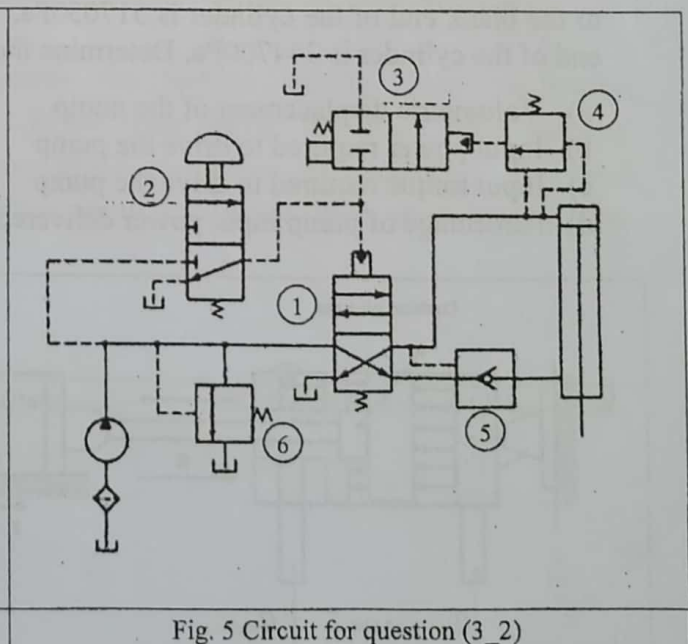

Fig. 5 Circuit for question (3_2)
2. Figure 5 shows a fail-safe circuit with overload protection. The purpose of the circuit is to prevent the cylinder from accidentally falling on an operator as well as prevent overloading of the system.
- c) What is the purpose of using valve (5) in the given circuit?